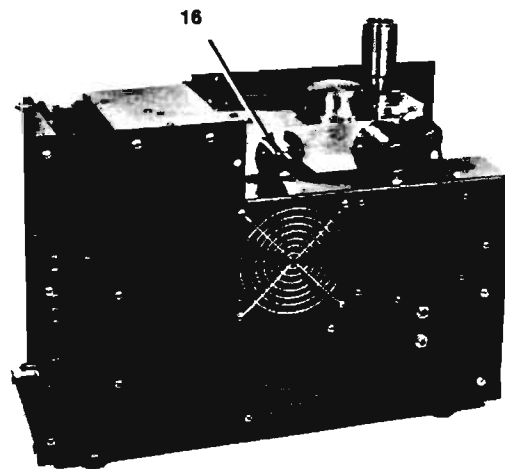

Fig. 3-2. Secondary Operating Controls and Indicators
**Table 3-2. Secondary Operating Controls and Indicators (Fig. 3-2)\***